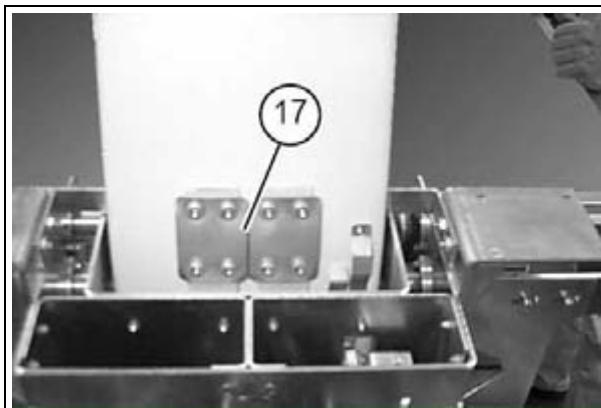

Fig. 38: Attachment plates
- Move the C-arm outward as far as possible, passing the -10° position, using the tensioning belt until the attachment plates on the back ((17/Fig. 38 / p. 66)) can be removed.
- Insert the screws first through the attachment plate (\(17/Fig. 38 / p. 66\)), then through the toothed belt and finally tighten them in the C-arm, securing them with Loctite. Use a 5 mm Allen wrench **with guide pin** to tighten them.